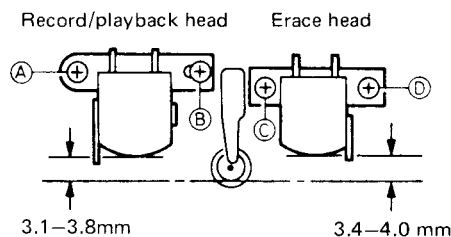

Fig. 9
- 1) To replace the record/playback head, remove two screws (A) and (B) shown in Fig. 9.
- 2) To replace the erase head, remove two screws (C) and (D) shown in Fig. 9.
- 3) When pressing the playback button, adjust these heads with the screws and the adjustment hole so that they are located as shown in Fig. 9.
- 3) Adjust the head angle by turning screw (B) shown in Fig. 9 so that the phase difference between the L and R outputs is  $0^\circ$  and the outputs are maximum.
- 4) After adjustment, be sure to paint-lock screw (B).